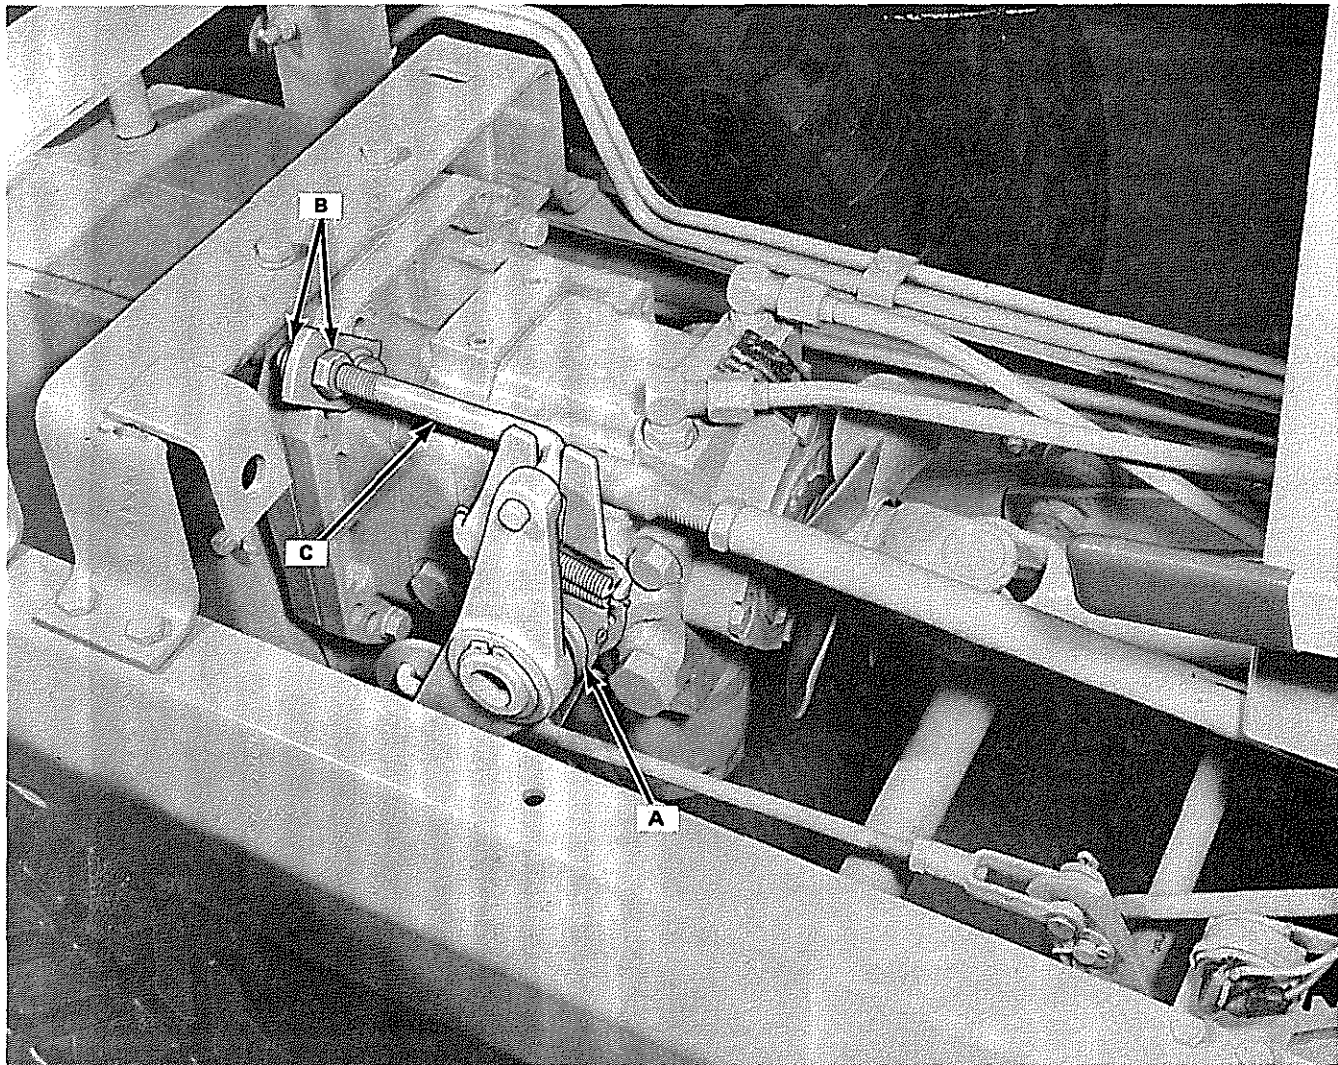

FIGURE 3-12
7. Drive out roll pin (Reference "A" fig. 3-12) holding linkage to control shaft. Remove linkage as an assembly.
18. Securely block up rear of tractor. Make sure free wheeling valve is closed. Place travel pedal into the neutral position. Start the engine and release the brakes. If rear wheels creep forward, loosen nuts (Reference "B" Fig. 3-12) and shorten rod (Reference "C") until wheels stop creeping. If rear wheels creep backward lengthen rod (Reference "C") until wheels stop creeping. Retighten nuts (Reference "B").